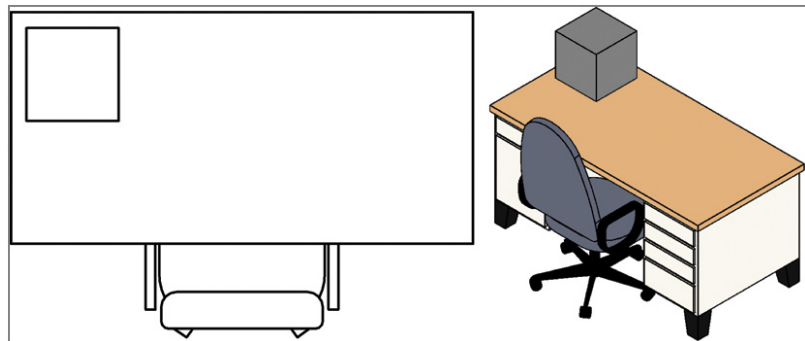

FIGURE 6.11 Loading and placing the chair in the project
2. From the Modify | Place Component contextual menu, click the Load Family button; under the Furniture folder, choose the Chair-Executive.rfa family. Place it as shown in the left image in Figure 6.11, making sure the chair is centered under the desk's opening.